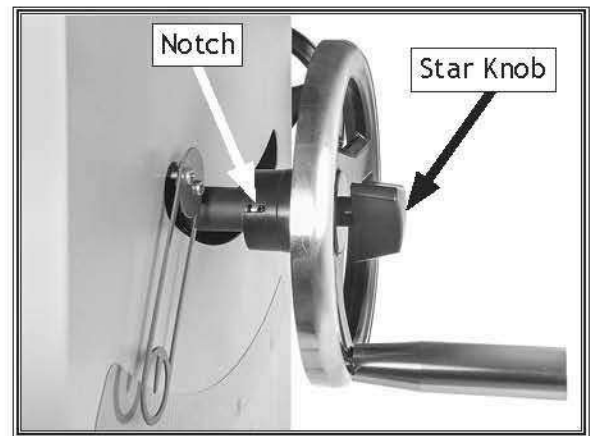

Figure 16. Handwheel properly installed.
5. Install handwheels on shafts, making sure notch in each handwheel fits over pin on each shaft, as shown in **Figure 16**, and then secure with star knobs.